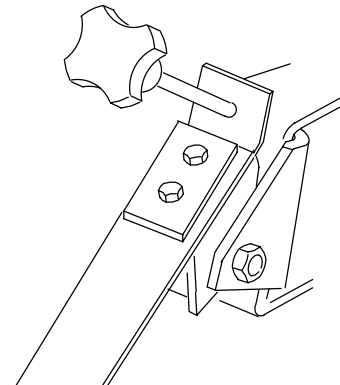

FIG. 7.
**The squeegee pressure adjustment** assures the blade "lays over" slightly in use and the sharp edge of the blade wipes the floor. To adjust, lower the tool to the floor and drive the machine ahead slightly. Locate the adjustment knob at the top of the pressure arm under the back of the machine. To increase pressure, turn the knob clockwise; to decrease pressure, turn counter-clockwise. Do not apply too much pressure, only enough to lay the blade over, so the sharp edge wipes the floor (Figure 7).